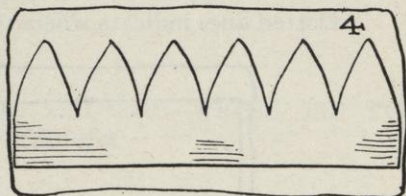

FIG. 4.
- c. When using such a pattern, **be sure to allow all around for seams.** Figure 4 shows how a six-section pattern, made according to Sections 7 *a* and *b*, looks when opened. **It does not allow for seams.** Label pattern with correct headsize, and with *not allowed for seams.*